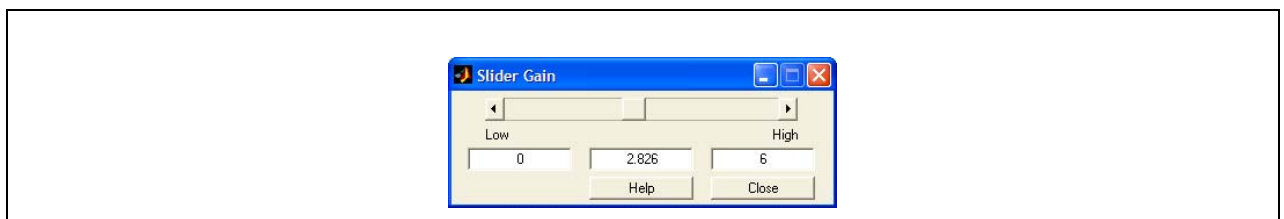

Figure 125: Slider Gain Control
4. Double click on the Slider Gain Block and move the slider (Figure 125 on page 202) to change the noise level. Then view the changes on the scope.